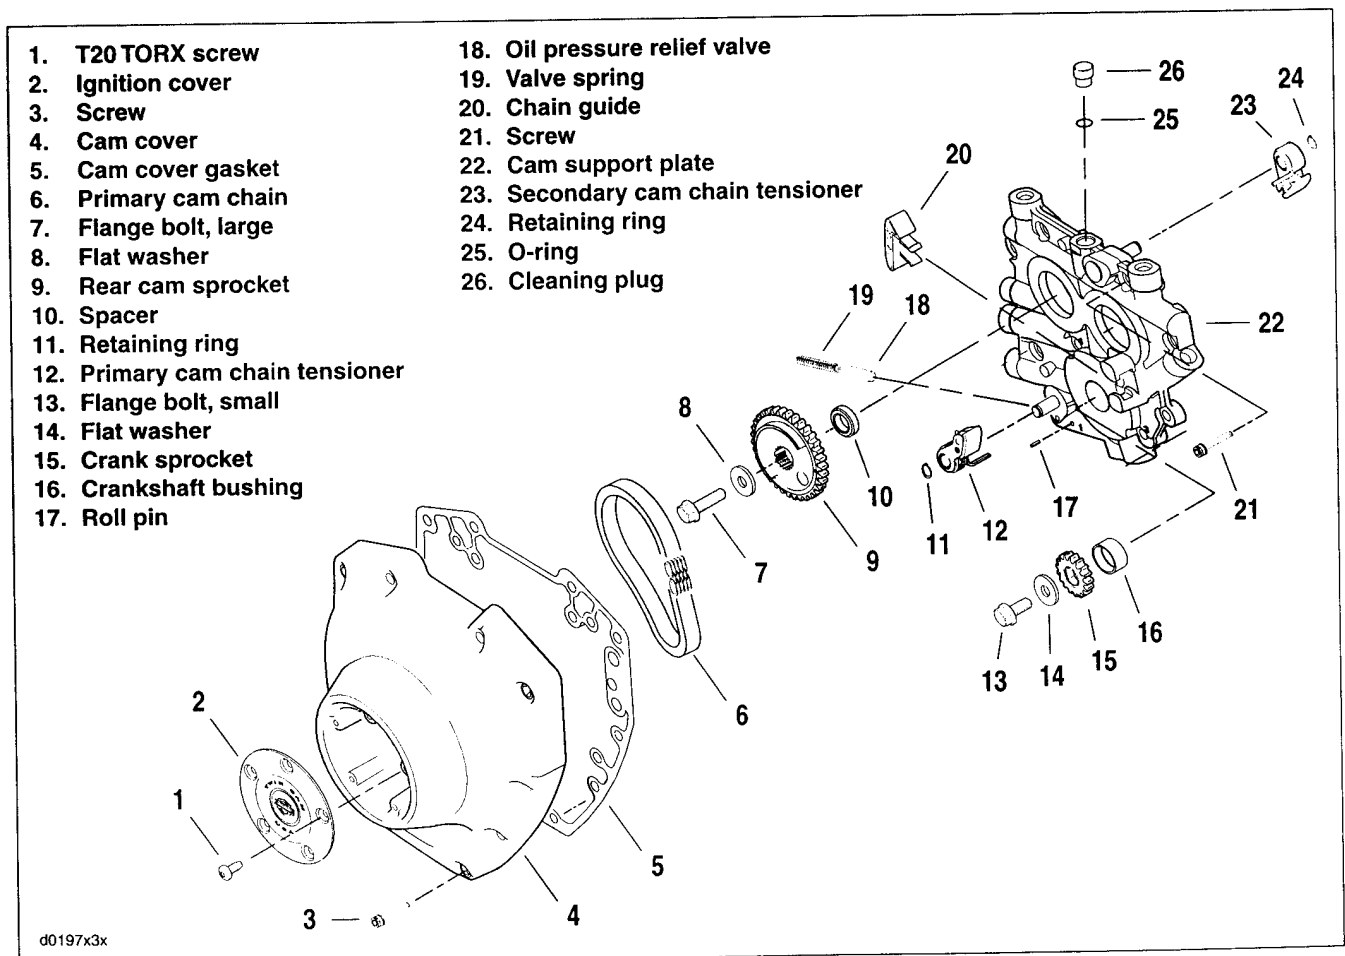

Figure 3-129. Cover and Cam Support Plate Assembly
- a. See Figure 3-129. Using a small screwdriver, carefully pry cleaning plug (26) from top of cam support plate (22).